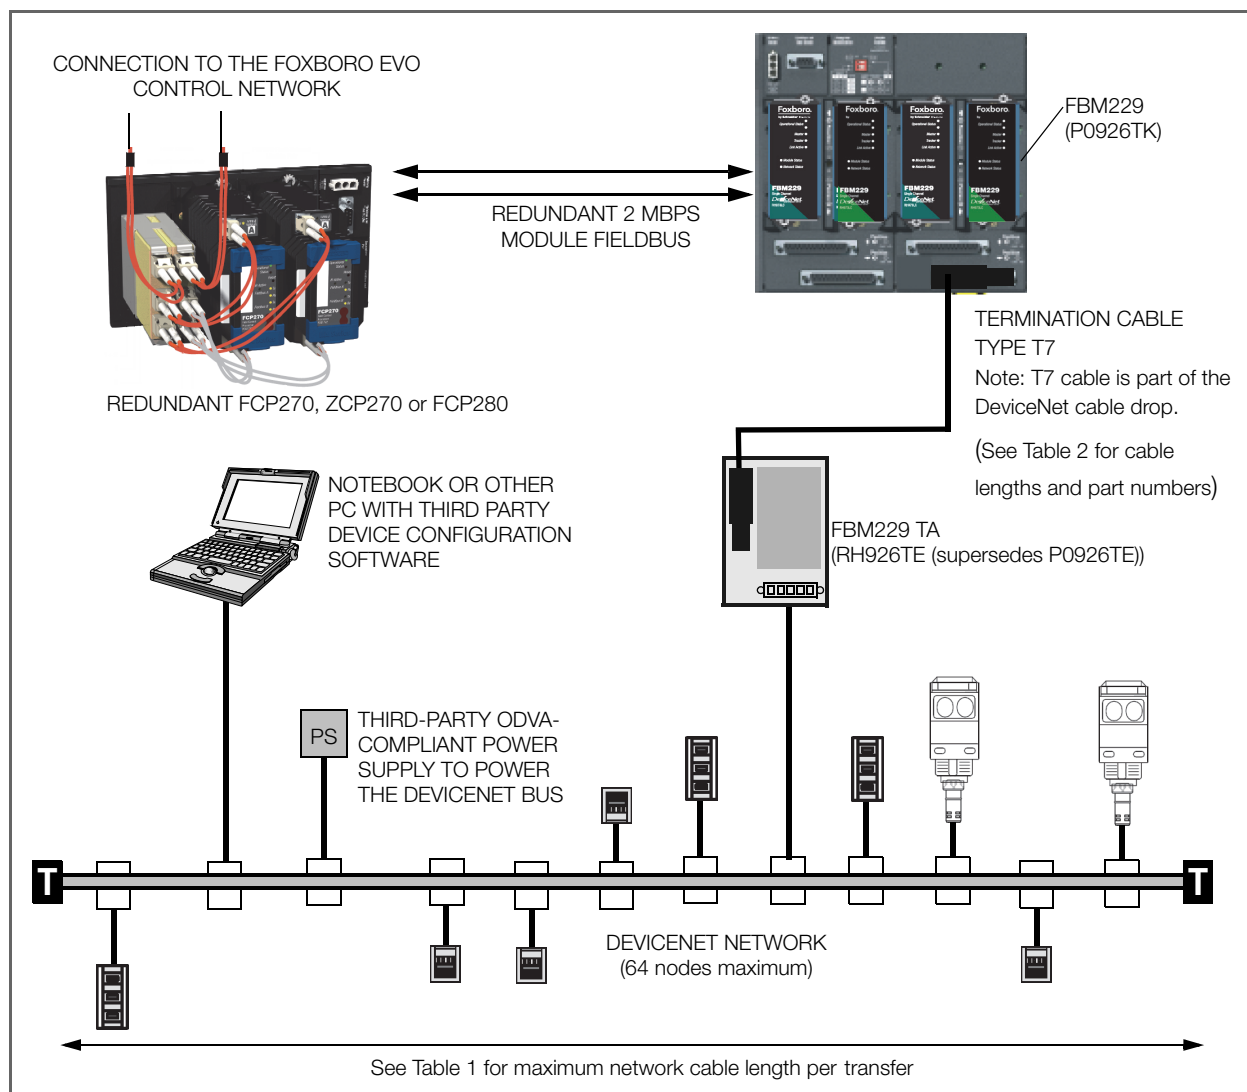

Figure 1. Typical FBM229 Configuration
The FBM229 provides the interface to field devices for either the DIN rail mounted FCP270/FCP280 Field Control Processors or the rack mounted ZCP270 Z-Form Control Processor. When deployed for use with an FCP270 or FCP280 (as shown in Figure 1), the module is installed in the same baseplate or in an adjacent baseplate, and communicates with the control station over a 2 Mbps Fieldbus. The FCP270 or FCP280, in turn, is connected over a 100 Mbps switched network to other control stations, supervisory applications, system management stations, and other Foxboro Evo control resources.
In addition to the four-position baseplate shown in Figure 1, the FBM can be mounted on any of baseplates described in *Standard 200 Series Baseplates* (PSS 31H-2SBASPLT).
The FBM229 is connected to the DeviceNet segment via a DeviceNet specific termination cable (Type 7) and a termination assembly (TA), as shown in Figure 1. With this drop, the FBM229 operates as a scanner node on the network and complies with the DeviceNet Communication Adapter profile. See "TERMINATION ASSEMBLY" on page 6 for a description of the Type 7 cable and the TA.
A basic DeviceNet topology is shown in Figure 1, however, numerous other topologies can be employed. Refer to PUB00027R1, *Planning and Installation Manual: DeviceNet™ Cable System* (available at www.odva.org).